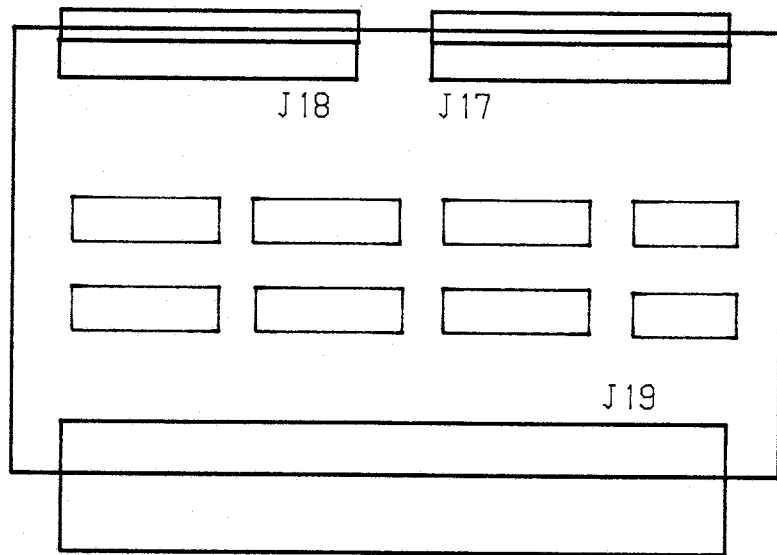

Figure 3, The Driver Board
- 3) Driver Board (Figure 3)
The Driver Board, shown in Figure 3, buffers and drives the bus. It is enclosed in a case to further shield the board and to protect it from damage after it is attached to your Amiga. The